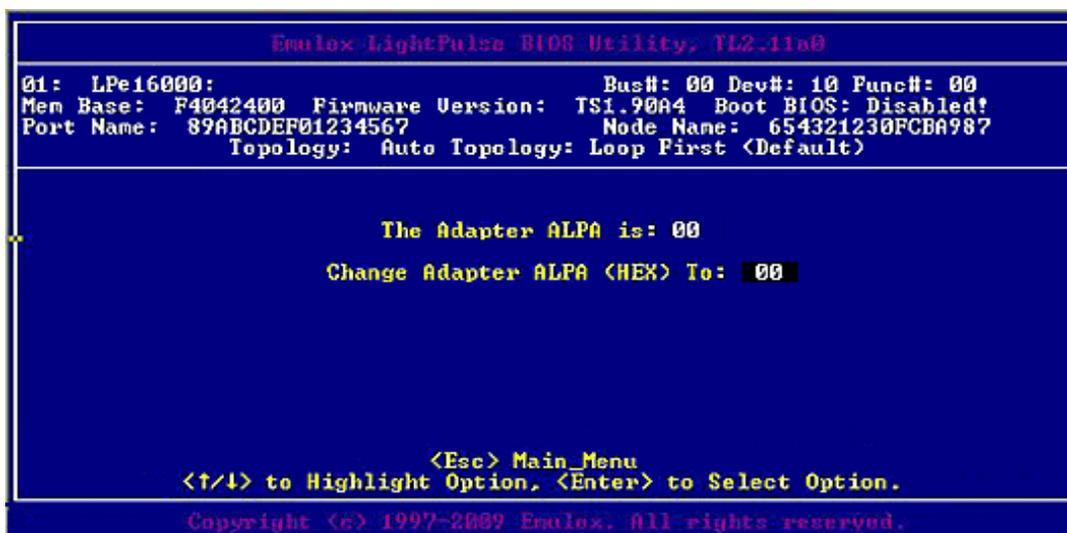

Figure 4-10 Change Default ALPA Screen
2. Select **Change Default ALPA of this Adapter** and press **<Enter>**. Information similar to Figure 4-10 on page 32 is displayed.